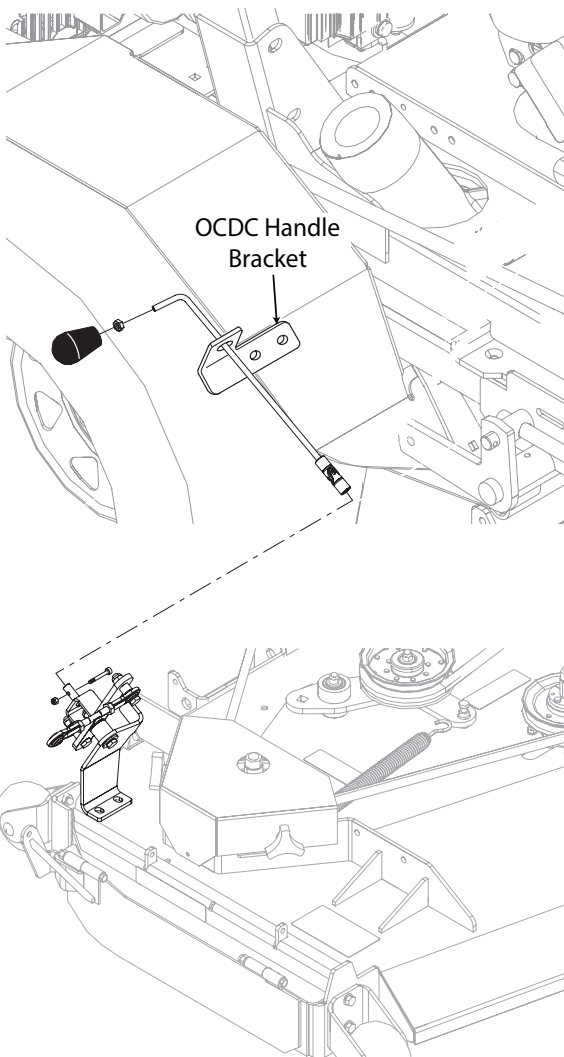

Figure 3-31. OCDC Control Lever Installation
16. Install the OCDC control rod through the handle bracket and attach to the OCDC pivot bracket. Secure the OCDC control rod to the pivot bracket using one (1) #8-32 x 1-1/4" screw and one (1) #8-32 elastic stop nut. See Figure 3-31, Page 21. Tighten the hardware.
17. Install the jam nut and the OCDC handle knob to the control rod. See Figure 3-31, Page 21. Tighten the jam nut.